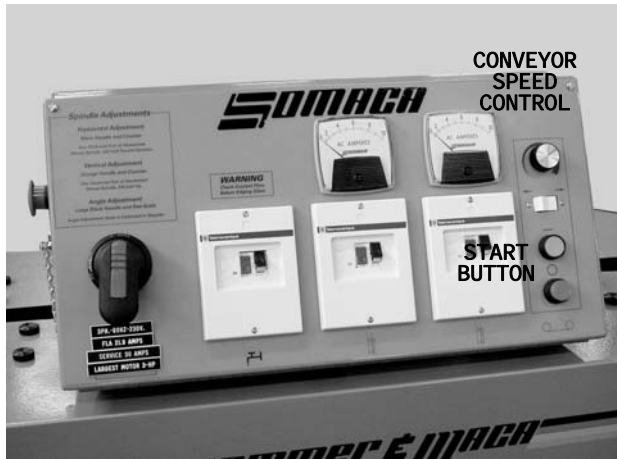

Figure 27
2. Set the speed adjust at 50 percent and press the START button (see Figure 27).